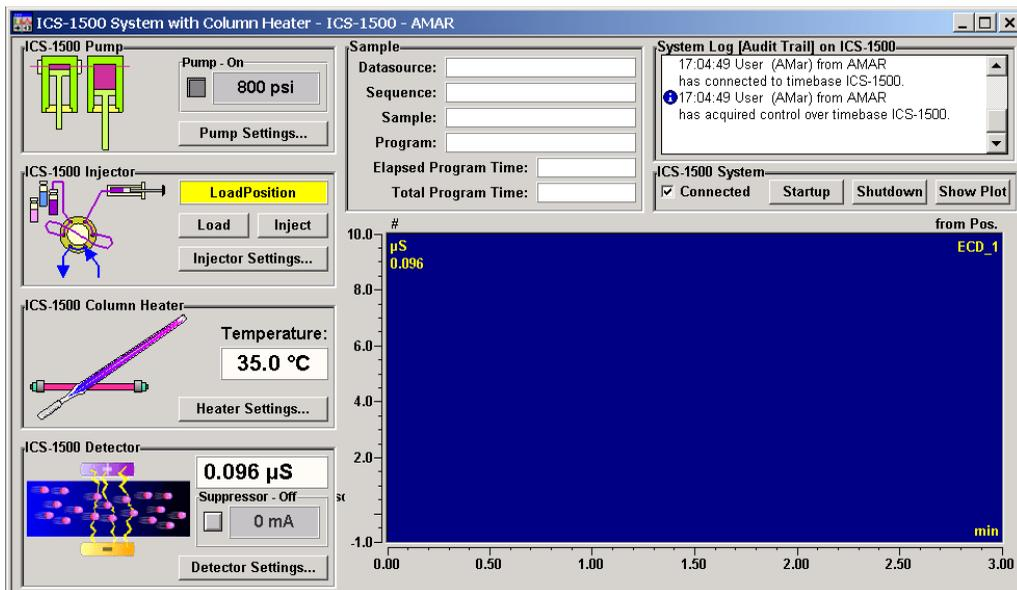

Figure 33. ICS-1500 System Control Panel Example
19. Double-click the .pan file to open the Control Panel for your system (see the example in Figure 33).